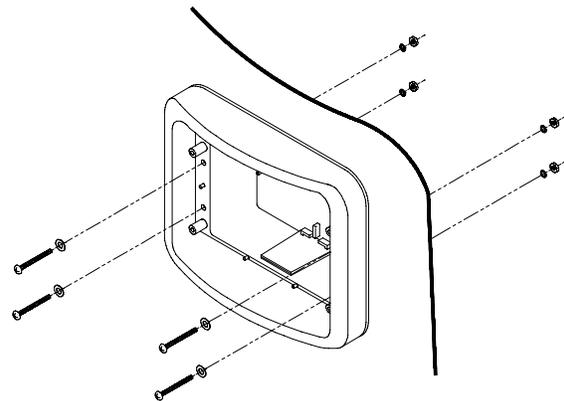

FIGURE 4
- 5) Once the housing and bezel are positioned in the hole, use the four #8 x 1-1/2" stainless steel machine screws, nuts, washers and lockwashers to secure the assembly to the vehicle (Figure 4). At this point, make sure that any excess sealant is wiped clean from the assembly. As noted in step 2, if access to the back of the mounting surface is not possible, it will then be necessary to use the four #8 x 1-1/4" stainless steel, sheet metal screws provided. In this situation, steps 6 through 8 must be completed before the bezel/housing assembly is affixed to the vehicle.